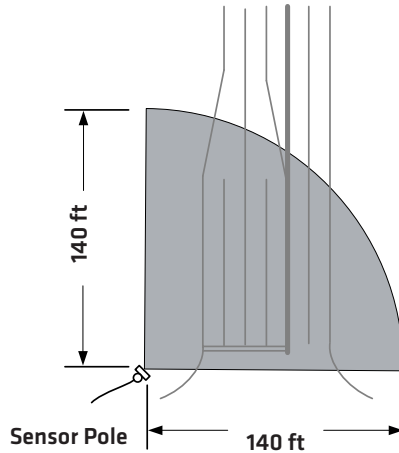

Figure I.3 - Corner Radar
- Corner radar** – The SmartSensor Matrix is a corner radar device with a panoramic 90°, 140-ft. (42.7-m) view (see Figure I.3). The sensor's mounting location should be selected so that all stop bar detection zones on an approach are within a 6–140-ft. (1.8–42.7-m) radial distance.